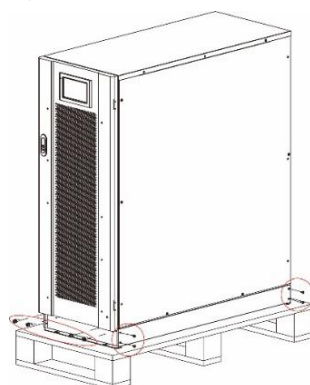

Fig. 3-2 Removal of L-shaped angle support
Step 6: after confirming that the equipment is in good condition, remove the L-shaped angle support fixed by pallet for fixing the case, as shown in Fig. 3-2.